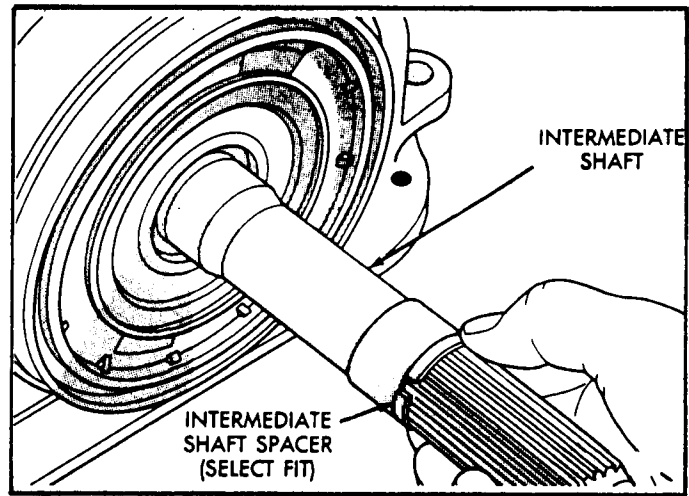

Figure 39
57. Install the proper selective spacer on intermediate shaft (See Figure 39).